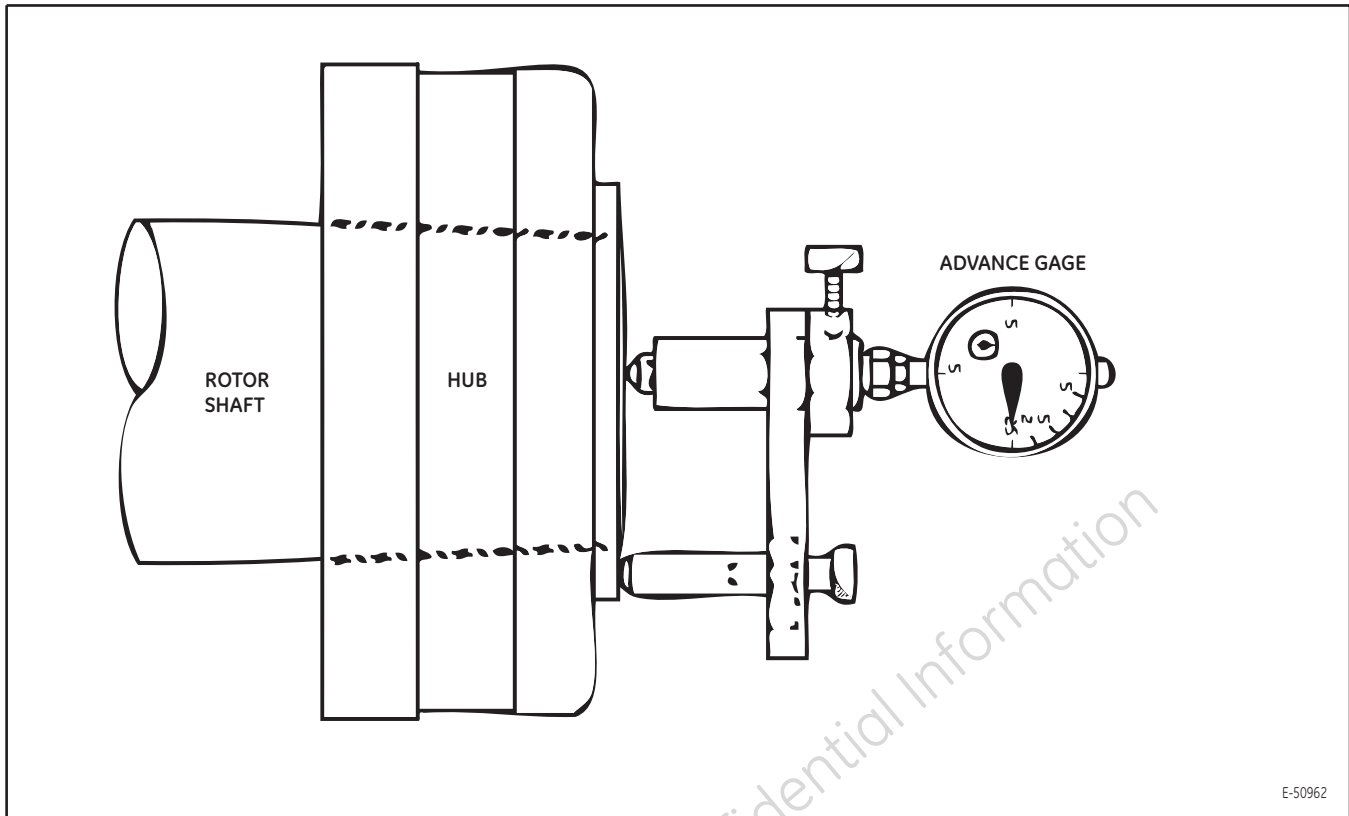

Figure 14. Using Advance Gage for Hub Installation.
3. Trial mount the cold hub onto the shaft. Measure and record the position of the hub with respect to the end of the shaft. Take measurements with a micrometer advance gauge (similar to that shown in Figure 14 ). Zero the gauge. Refer to Figure 39 in section 6.4.3.6. *Hub Installation Advance Gage* in this publication for advance gage information.
9. Check the hot or shrunk-on position of the hub on the shaft. The advance from cold to hot position along the axis of the shaft must be held within the limits indicated. Check the actual advance with an indicator gauge, located in the same relative position as used to measure the cold position in Step 3 (as shown in Figure 14).